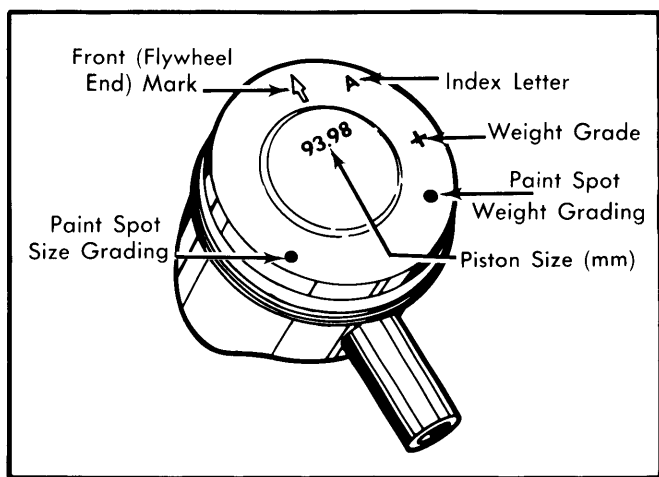

Fig. 6 Top View of Piston with Detail of Piston Markings
2) If clearance exceeds .008" (.20 mm), replace piston and cylinder as a set. New piston must be of same weight grade as original or within 10 g of original piston weight. Piston size, weight and installation position are marked on top of piston (See Fig. 6). Piston and cylinders are available in two oversizes .020" and .040".